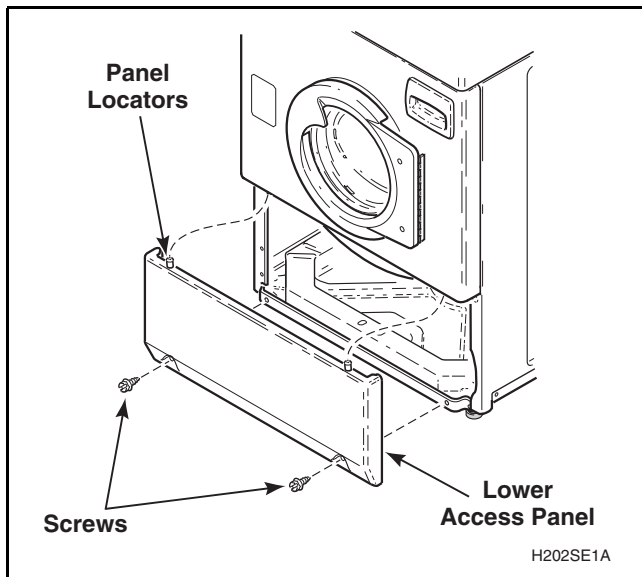

Figure 16
- While supporting lower access panel, remove two screws from bottom edge of panel and remove panel. Refer to *Figure 16*.